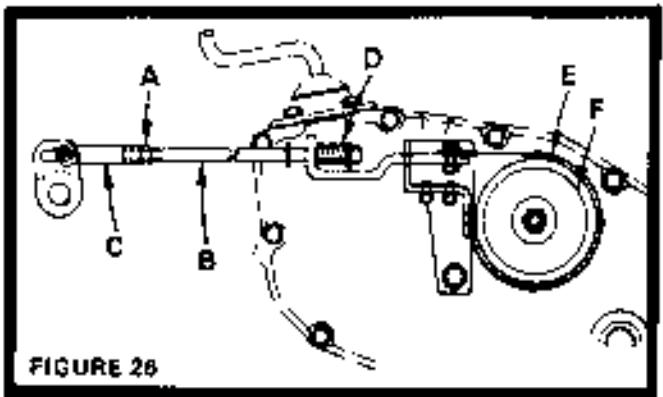

FIGURE 26
- b. Loosen Jam Nut (A) on Brake Rod (B) at Clevis (C) (Fig. 26). If you find it difficult to loosen Jam Nut (A) (Fig. 26) remove Cover Plate (Fig. 8) in L.H. Frame Rail.
- c. Rotate Brake Rod (B) counterclockwise (\leftarrow) turning Brake Rod out of Clevis (C) four to six turns (Fig. 26).
- f. Shut engine off. Rotate Brake Rod (B) clockwise by hand, turning Brake Rod into Clevis (C), until tight. Tighten Jam Nut (A) on Brake Rod (B) at Clevis (C) (Fig. 26).
- g. Reinstall Shift Cover Plate and four (4) Mounting Screws. If Cover Plate was removed in step b it should be replaced.